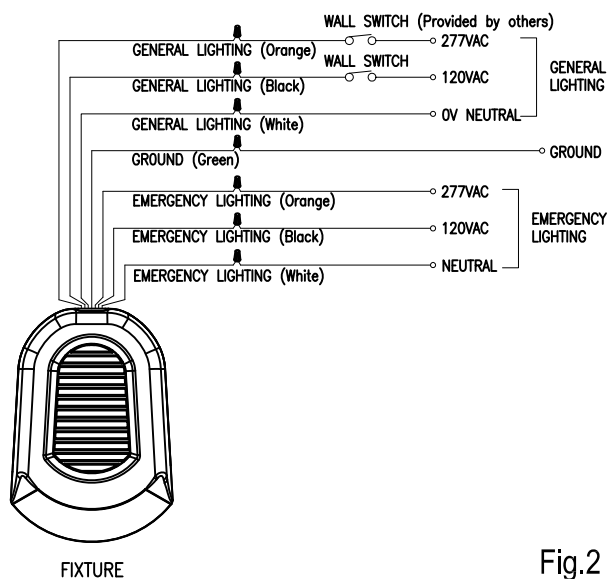

Fig.2
3. Feed AC supply leads through center hole on the back plate into the junction box, then make the proper supply lead connections. See electrical connection section below (see Fig.2).
4. Make the proper supply lead connections. See electrical connection section below (see Fig.2).